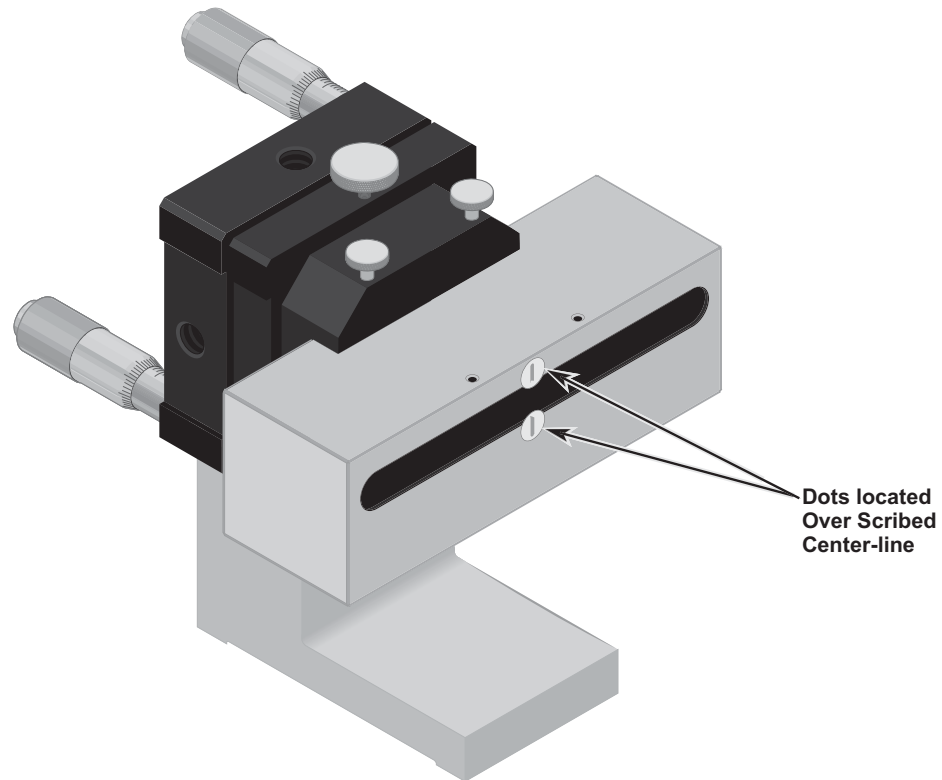

Figure 218 Initial Positioning of Reflector
- 9 Realign the laser beam, in this case by using the 33% beam splitter, so that the two dots are located over the scribed center-line of the reflector housing. See Figure 218.